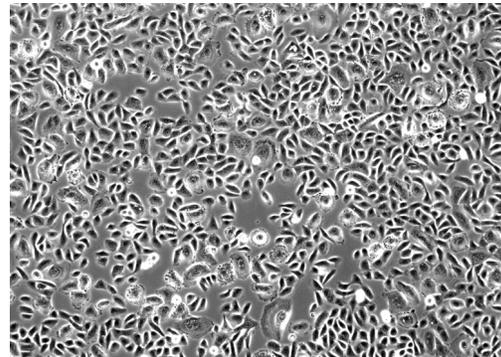

Figure 1. NHBE morphology (10X) in the expansion mode; ~80% confluence in B-ALI™ growth medium
8. Day 3 after seeding: the cells should be sufficiently confluent to be harvested for seeding onto the transwell inserts (see figure 1).